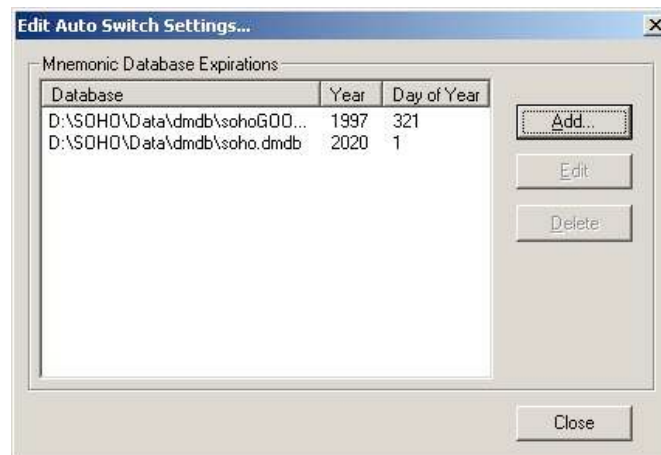

Figure 92: Edit Auto Switch Settings Window
- Click the “Add...” button from the “Edit Auto Switch Settings...” window to add a new DMDB (see Figure 92).